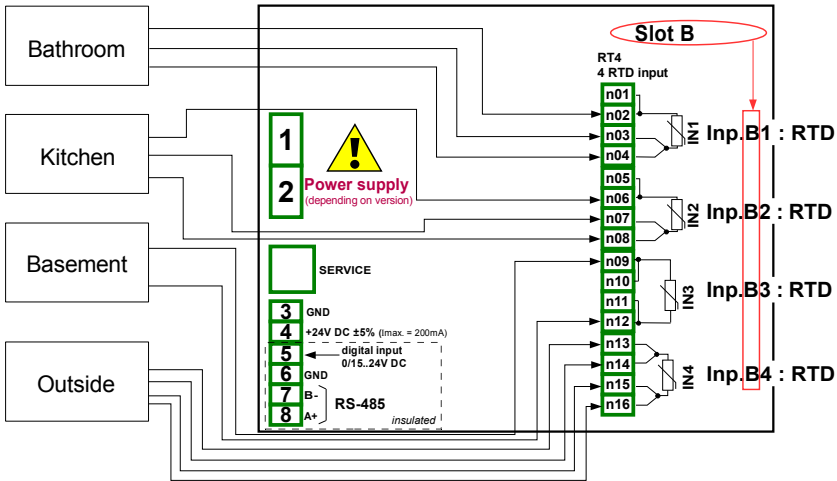

Fig. 7.55. Schematic diagram for the RT4 module
- choose as the source - **Inp. B1: RTD** (see the connection in Fig. 7.55), press the **Source configuration** button to set the source configuration options,